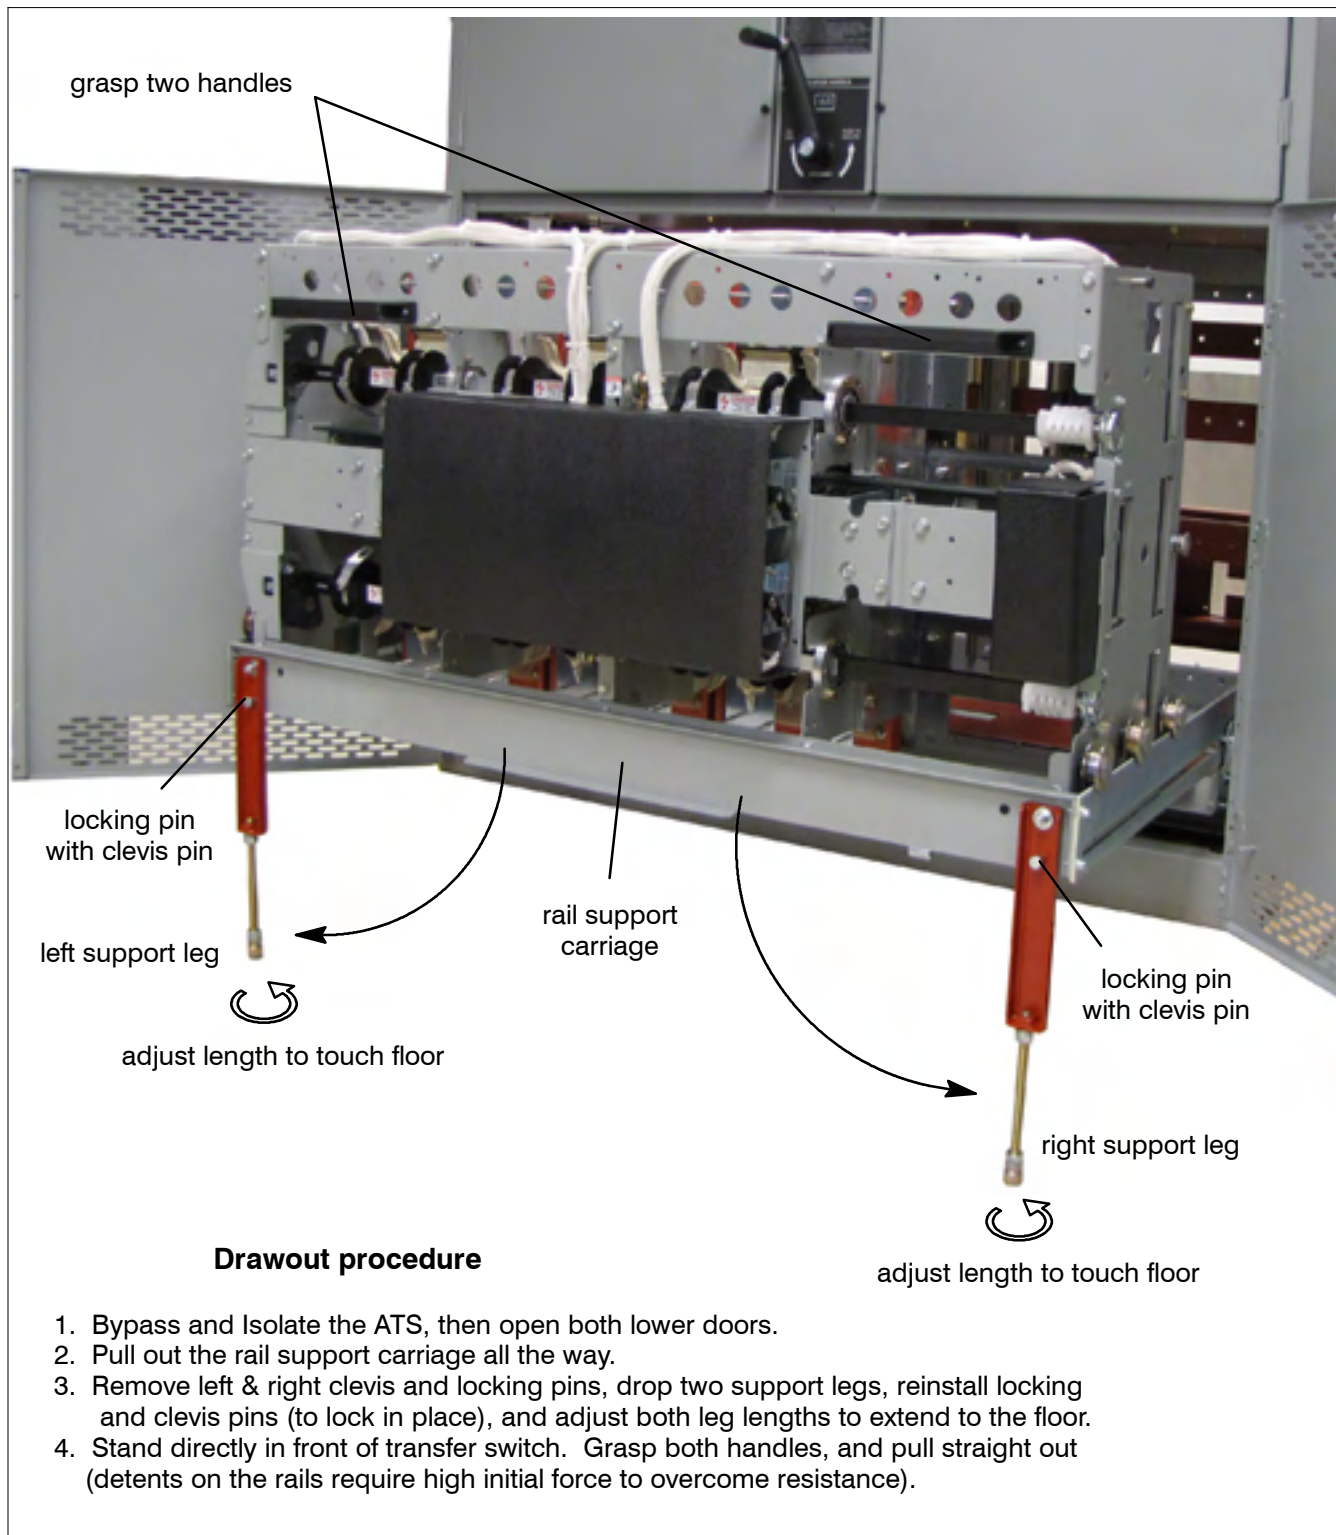

Figure 3-7b. 4000 amp transfer switch isolated and pulled out for inspection.
4. Open the lower enclosure door(s). Pull out the side rail carriage. On 4000 A extend two support legs; see Figure 3-7b. Then roll out the transfer switch. It can be safely inspected in this position. The transfer switch can also be removed for maintenance operations.
To avoid personal injury and equipment damage on 4000 A switches, two support legs must be extended as shown in Figure 3-7b. Substantial initial force is required to pull out the transfer switch (there are detents on rails).
- Slide the transfer switch (ATS) into the enclosure (isolation contacts facing inward) until its crank pins engage the latch plates on both sides. On 4000 A a substantial force is required to overcome detents on the rails. Next push in side rail carriage. On 4000 A first retract the two legs and lock them in place. See Figure 3-7b. Then close enclosure door(s).